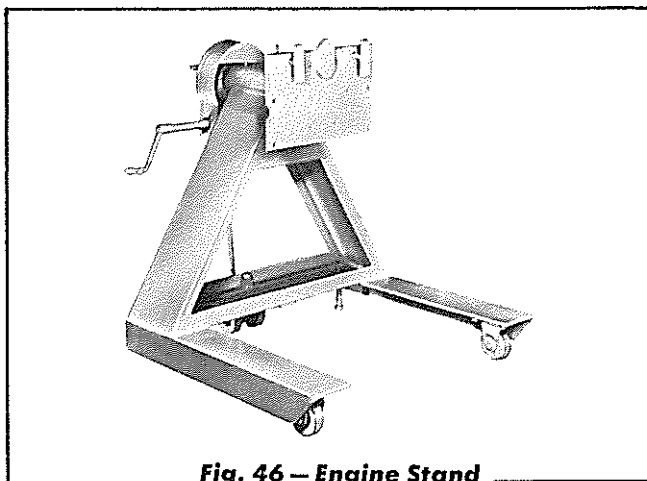

Fig. 46 — Engine Stand
6. With the above accessories removed, the engine can be mounted on a stand similar to the one shown in Fig. 46. With this stand, the engine is held by a heavy mounting plate provided with screw clamps to fasten to the left side of the cylinder block. The engine may be rotated on the stand for convenience in assembly or disassembly.
7. Loosen the tension on the fan belts and remove the three (3) capscrews attaching the fan mounting bracket to the engine balance weight cover, then remove the fan assembly from the engine.